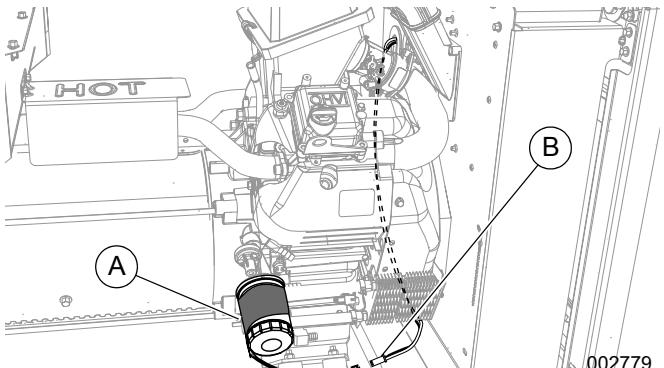

Figure 6. Installing the Oil Filter Heater (11-22 kW)
2. See **Figure 6**. Install new oil filter and tighten by hand until seal contacts sealing surface. Then, hand-tighten oil filter an additional full turn. Slide oil filter heater (A) over the oil filter as shown, with the connector plug at the bottom.